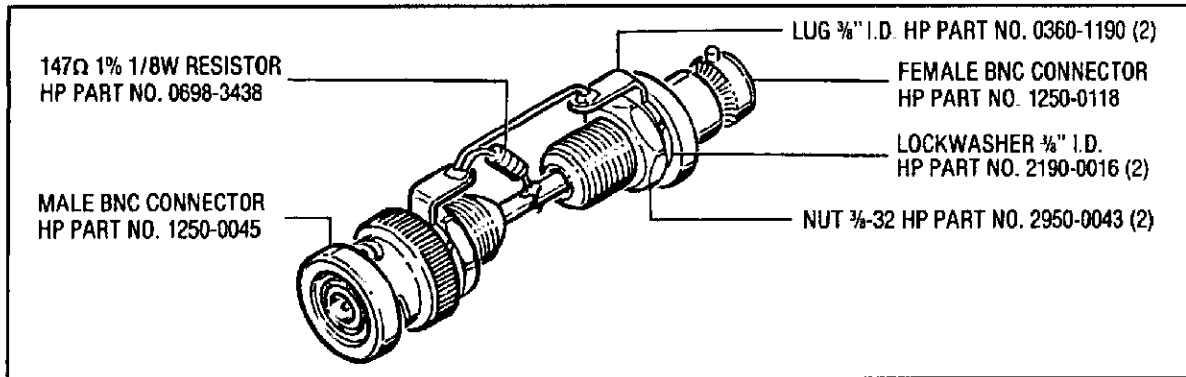
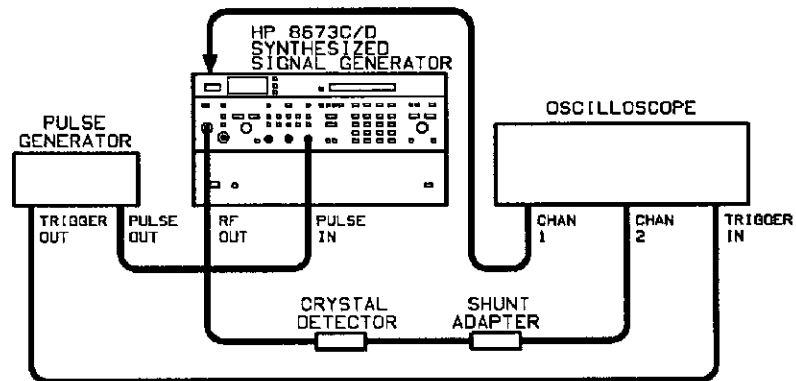

Figure 5-48. Pulse Shunt Adapter
Figure 5-49. ALC Sample Pulse Adjustment Test Setup
Shunt Adapter	Fabricated Locally (see figure 5-48)
6. Connect channel 2 to the shunt adapter (figure 5-48) output as shown in figure 5-49. The cable between the oscilloscope and the shunt adapter must not be longer than 24 inches.
The shunt adapter can easily be fabricated using 2 BNC connectors and a 147 ohm resistor as shown in figure 5-48.
Shunt Adapter	Locally fabricated (see figure 5-48)